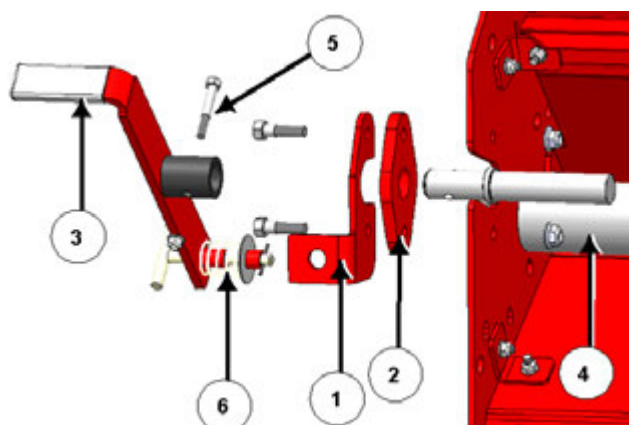

Figure 33: Re-install adjustment handle
- b. If the guard rod adjustment handle was previously installed, follow the below steps and see Figure 33:
- i. Re-install the pin storage (1) and guard rod adjustment tube (2) to the tub wall using the previously removed hardware.
- ii. Replace the guard rod adjustment handle (3) and fasten to the guard rod adjustment bar (4) using the previously removed cross bolt (5).
- iii. Place the handle in the handle lock (6).